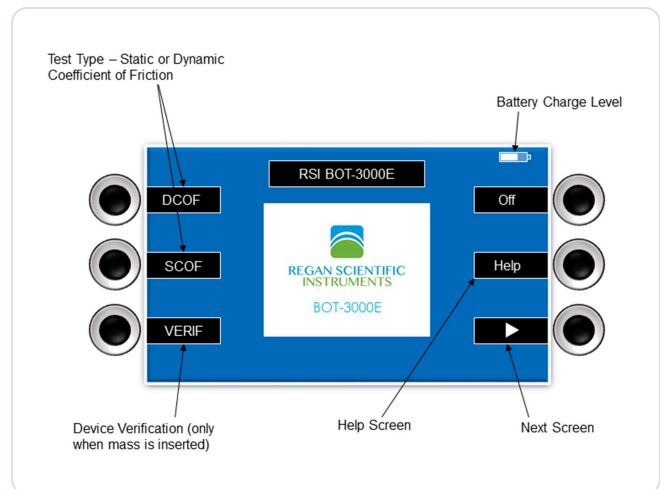

Figure 1. The main screen. VERIF appears only when the verification mass is inserted.
When the tribometer is powered on, the main screen appears (Figure 1). Press the switch next to a menu item to select it. Within the sub-menus you can adjust settings, print or download test results and run a system verification. After changing a setting such as the date and time, save it. The battery charge level is shown in the upper right corner of every screen.
- 5 The **VERIF** option appears at the lower left of the screen (Figure 1).